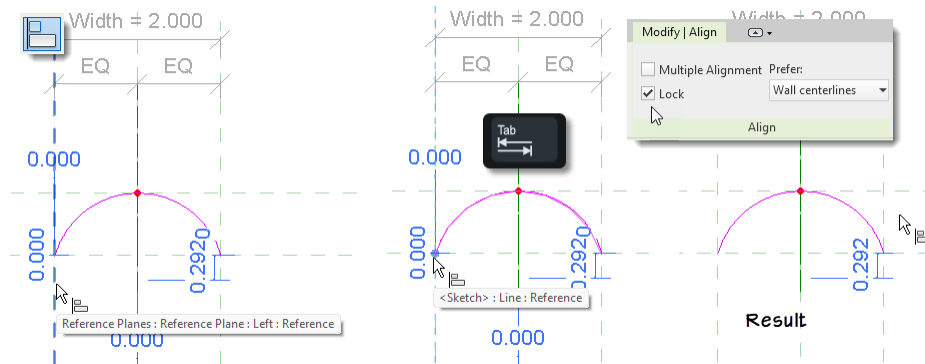

Figure 19—Align and lock the endpoints of the arc to the reference planes in both directions
11. Using the Align tool, align and lock the start and end points of the arc to the reference planes in both directions. (Four total). Use the tab key where necessary to ensure you are clicking the endpoint of the sketch line and not the dimension (see Figure 19).